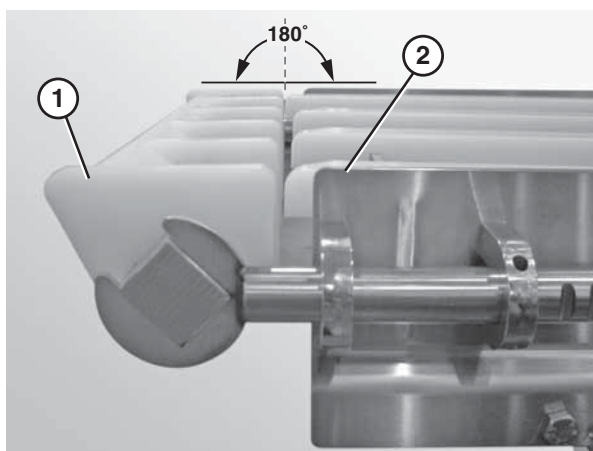

Figure 22
5. Ensure that the nose bar pucks (**Figure 22, item 1**) are in line with the conveyor frame (**Figure 22, item 2**).